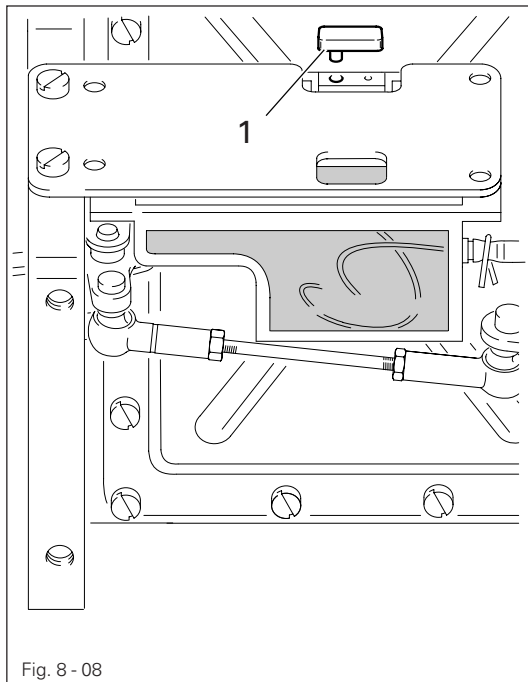

Fig. 8 - 08
- Fit the reel stand as shown in **Fig. 8 - 07**.